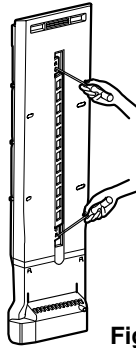

Figure 15
1. Remove the upper and lower Caps by using a flat screwdriver, and remove 2 screws. (Figure 15)